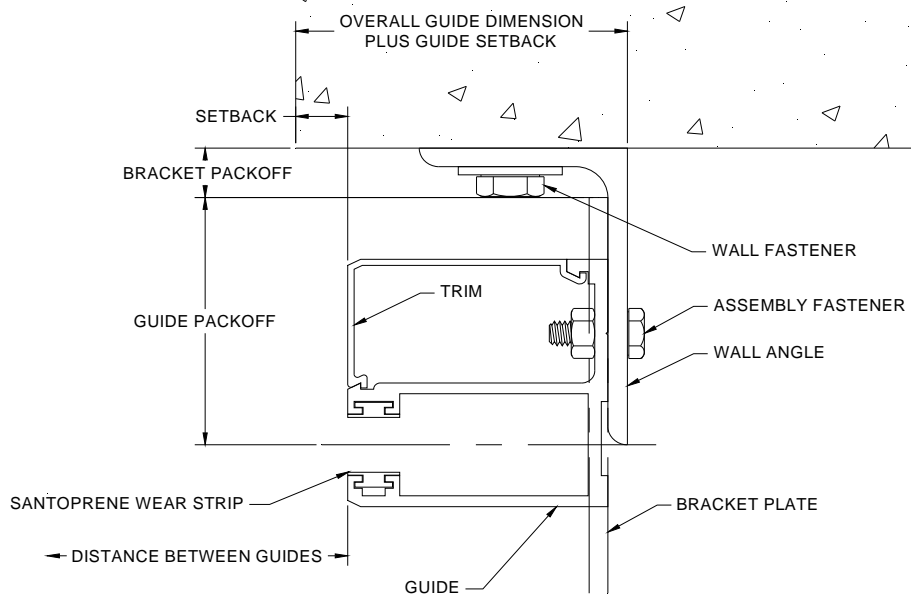

Figure 5.1 – Face of Wall “E” Guide
▪ Face of Wall Units Mounting to Existing Wall Construction (Figures 5.1 - 5.2):
2. Measure the distance from the opening/jamb to the heel of the wall angle (on "E" guides) or the toe of the wall angle (on "Z" guides). This distance is referred to as the "*Overall Guide Dimension plus Guide Setback*"; see **Figures 5.1** and **5.2**. See the job construction drawings for the guide setback and overall guide dimensions.